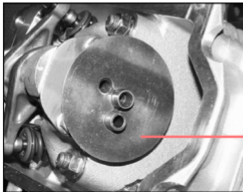

Fig. 8
- Remove the washer (**Fig. 8 - part. 13**).
- Fit the washer **(Fig. 8 - part. 13)**.